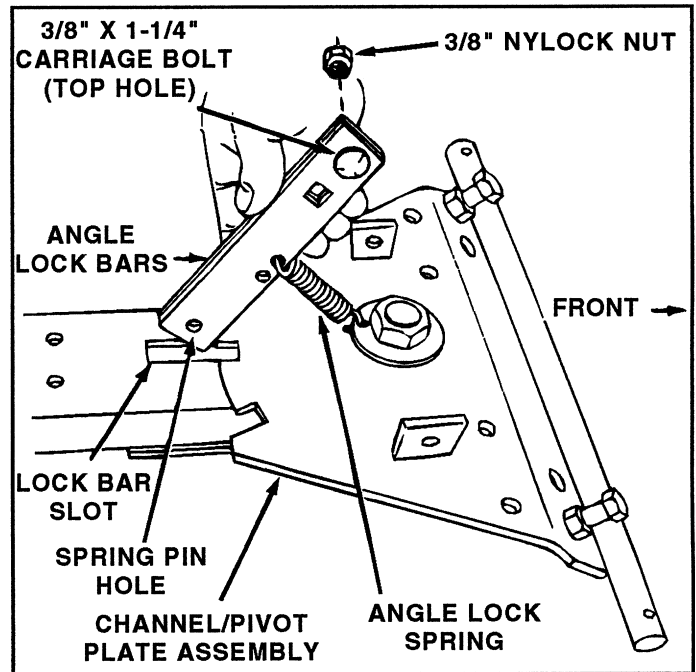
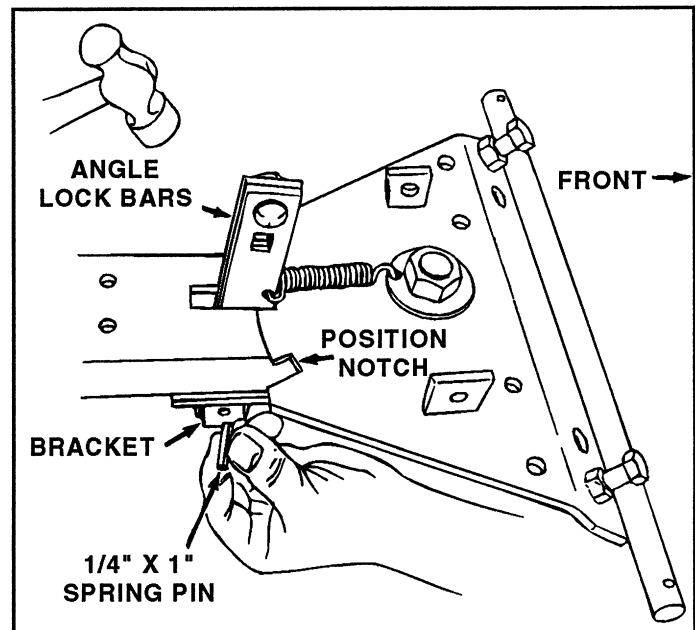

FIGURE 3
FIGURE 4
2. Assemble the two angle lock bars together as shown in figure 3, using one 3/8" x 1-1/4" carriage bolt and a 3/8" nylock nut in the top holes. Do not tighten at this time.
3. Assemble the offset end of angle lock spring into small holes in angle lock bars as shown in figure 3. Slide lock bars through lock bar slot until spring pin hole is aligned with bracket on back side. See figure 4. Using a hammer drive 1/4" x 1" spring pin into lock bars until flush with bracket. See figure 4. Tighten nut in angle lock bars which was left loose in step 2.